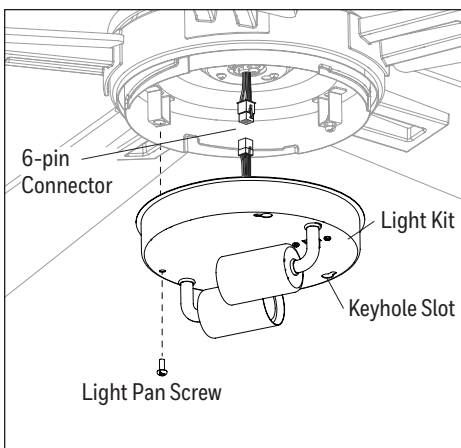

Figure 5.7
7. Remove one of the three light pan screws from the light pan and loosen the other two but do not remove. Connect the 6-pin connector from the light pan to the 6-pin connector from the light kit. Lift the two keyhole slots in the light kit over the two loosened light pan screws and turn in a clockwise direction. Then, use the previously removed light pan screw to secure the light kit to the light pan. Tighten all screws (Figure 5.7).